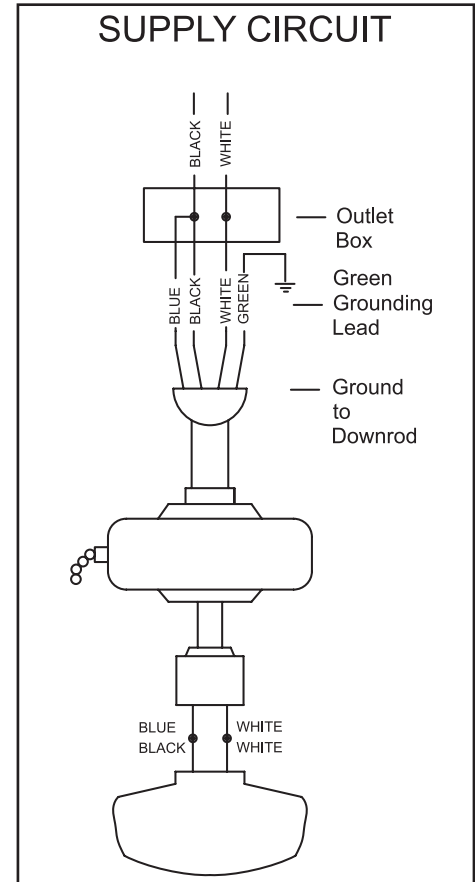

Figure 12
2. Connect the fan light supply (blue) wire to the fan supply (black) wire to the black household supply wire as shown in figure 12.